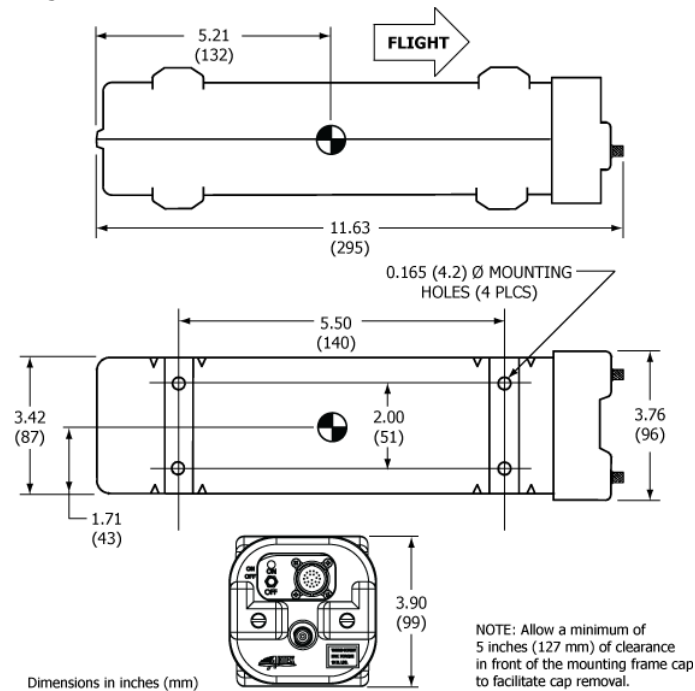

Figure 14 C406-2 Series ELT Outline and Dimensions
- 1) Select a suitable location for the ELT mounting tray. See Figure 14. Refer to these dimensions when determining mounting location.
- 4) Mark the four holes needed for mounting the tray, using the tray as a pattern. The hole pattern is also illustrated in Figure 14 on page 41.